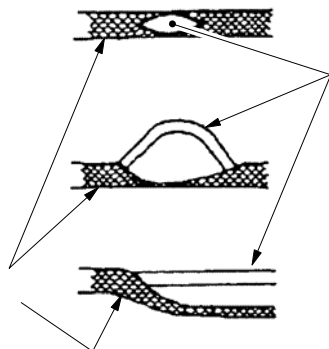

Figure 5.4 How to Treat the Shield Mesh of Signal Cable
- Do not unravel the shield mesh and treat it as shown in Figure 5.4.